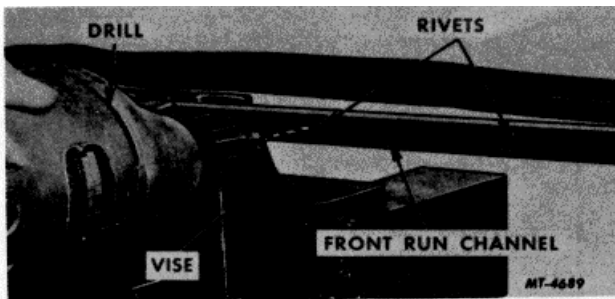

Fig. 20
9. Remove the four rivet heads using a 1/8 inch drill, Fig. 20.